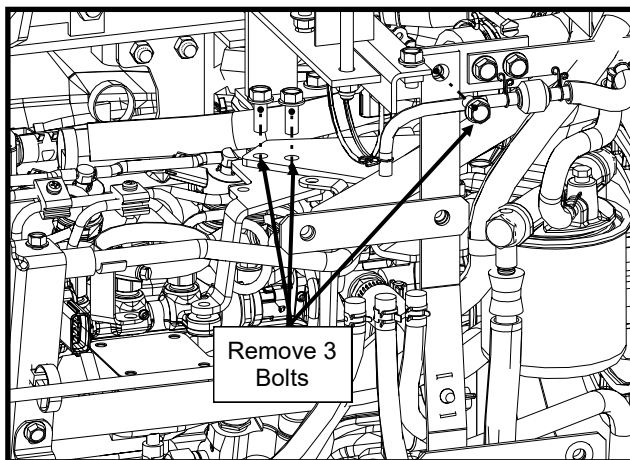

Figure 19.8 Remove Filter Mounting Bracket
- 19.8 Remove the three bolts securing the fuel filter mounting bracket and save for reuse as shown in Figure 19.8. Pivot the fuel filter out of the way to access the plug on the side of the water pump.